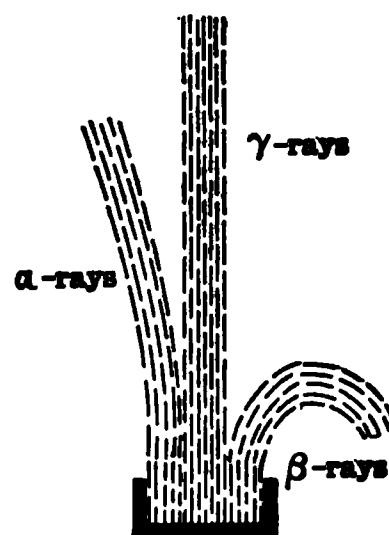

FIG. 526. — Effect of magnet on rays.
(2) The β -rays, or *beta rays*, are identical with the cathode rays. They consist of negatively charged particles of matter, or electrons. They are only about $\frac{1}{1800}$ as heavy as the hydrogen atom. Since they travel at a velocity of from 60,000 miles per second to 160,000 miles per second, they have much greater penetrating power than the alpha particles. The β -ray seems to be identical with the charge carried by the negative ion in solution or during electrolysis.
(3) The γ -rays, or *gamma rays*, appear to be of the same nature as the X-rays. They are more penetrating than either the alpha or the beta rays. The gamma rays are believed to be caused by the impact of beta particles upon surrounding matter. Fig. 526 shows the effect of a